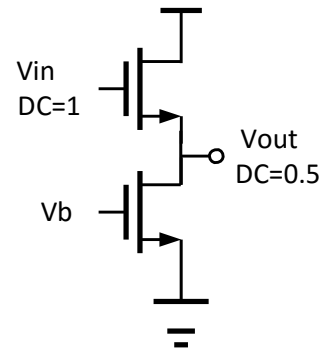

Fig. 1. (b)
- (f) Connect CS and SF as shown at Fig. 1. (c) and find the total input referred noise power. (You are allowed to "slightly" adjust the bias condition to make sure the overall gain equal to $A_1 \cdot A_2$.) (5%)